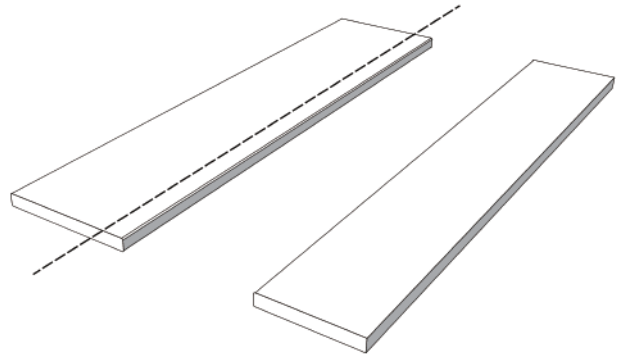

Fig24-4
4. Determine the size and cut HLSC-022B according to the size of the window and door openings. As shown in Figure 24-4: